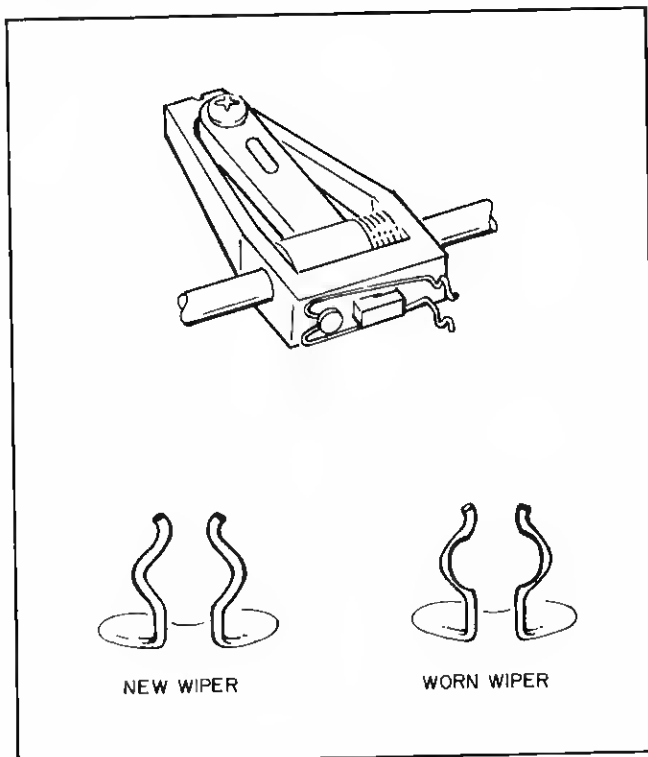

FIGURE 5-9. WIPER INSPECTION
b. After step a, the wipers will be in clear view. Check for dirt or contamination build up on contact surfaces. Compare the wiper with that of figure 5-9, which has excess wear. Normally only the wiper must be replaced. The wipers can then be removed with a small screwdriver.